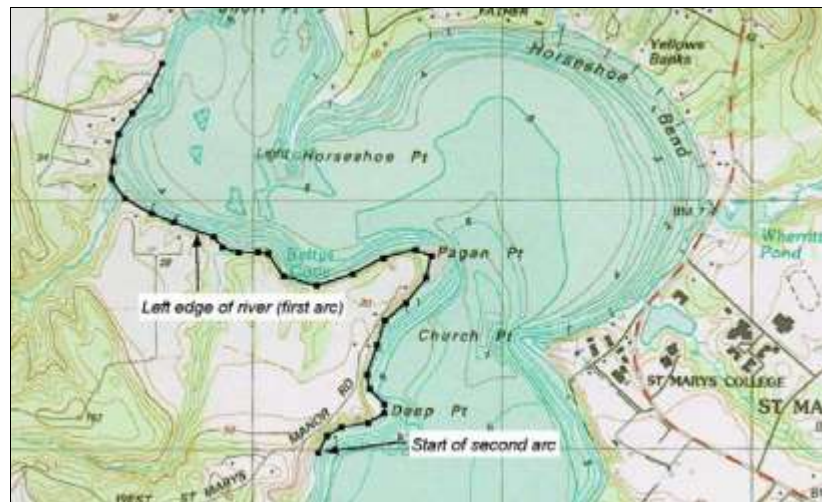

Figure 8 Creation of the first feature arc
3. Click out the left riverbank, as shown in Figure 8 (some may want to **Zoom**  closer). While creating the arc, if a mistake happens and there is a need to back up, press the *Backspace* key. If there is a need to abort the arc and start over, press the *Esc* key.